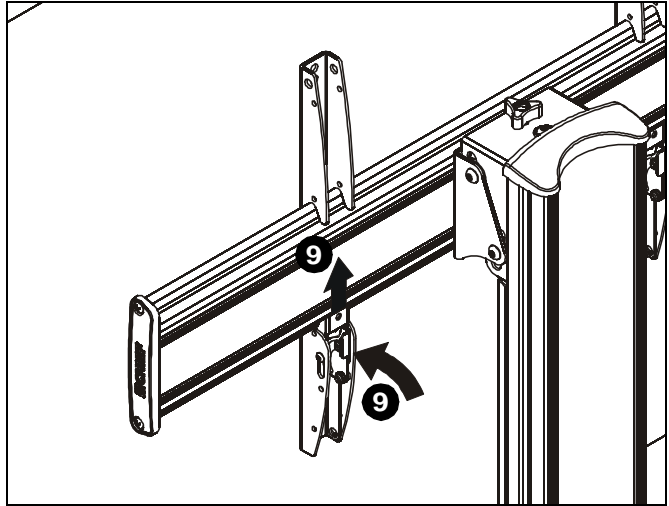

Figure 8
9. Move latches on interface uprights to the "closed" position to secure display to head assembly. (See Figure 8)